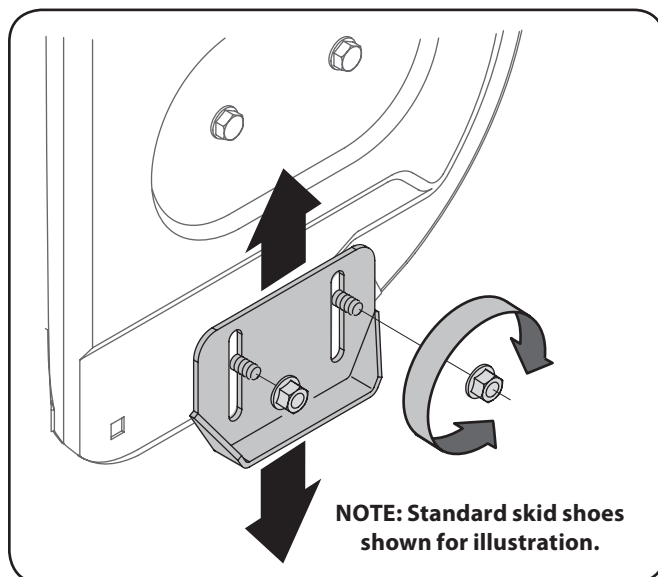

Figure 3-16
1. Loosen the four hex nuts (two on each side) and carriage bolts. Move skid shoes to desired position. See Figure 3-16.